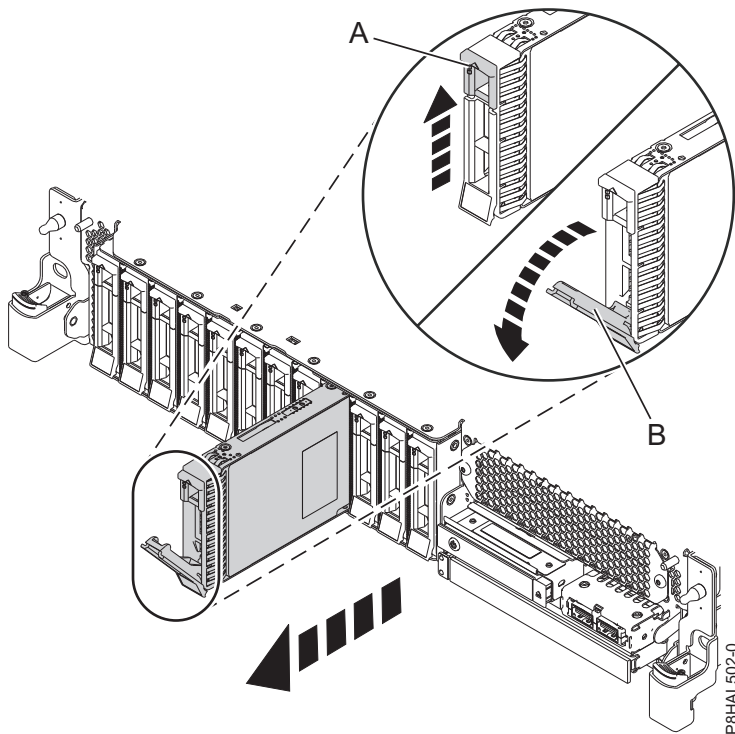
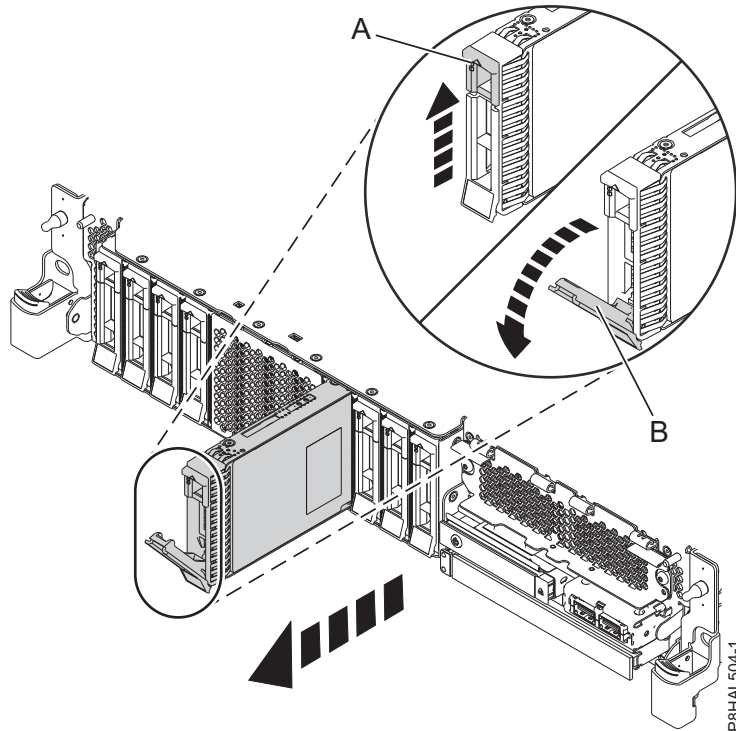

Figure 40. Removing a disk drive from a base function system
Figure 41. Removing a disk drive from an expanded function system
3. Unlock the drive handle (**B**) by pressing the handle latch (**A**) and pulling it out toward you, as shown in Figure 40 and Figure 41 on page 43. If the handle is not all the way out, the solid-state drive cannot slide out of the system.